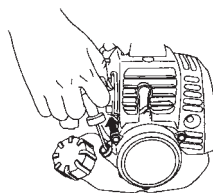

Fig. 14
3. Pull recoil starter briskly, taking care to keep the handle in your grasp and not allowing it to snap back. (Fig. 14)